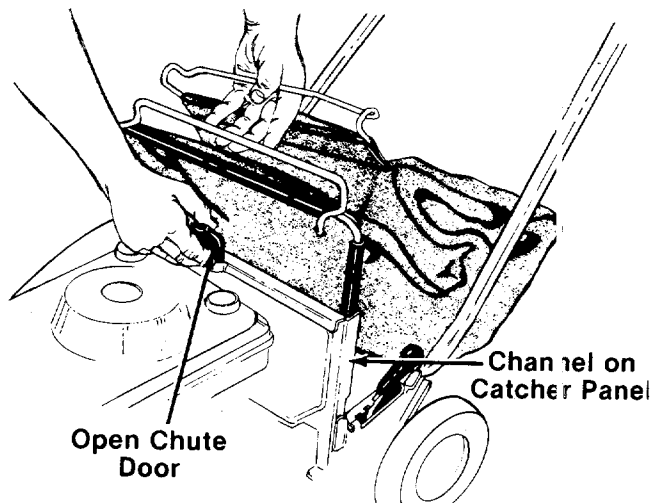

FIGURE 14.
1. Hold the chute door on the catcher panel open as shown in figure 14.